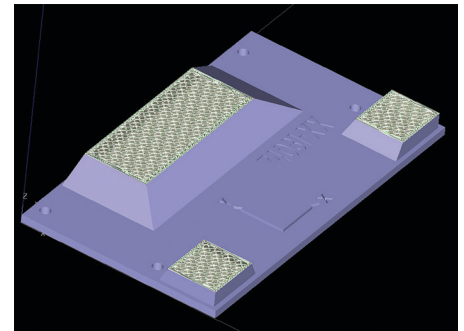

Figure 47: Fixture with Sparse – double dense fill.
4.2.3. Sparse – double dense (Figure 47)